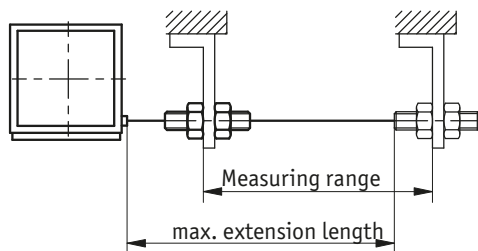

Fig. 3: Extension length check
- ▶ Do not extend the wire beyond the specified maximum extension length (see Fig. 3).
- ▶ Conduct the wire perpendicular to the wire outlet (see Fig. 3).
Mounting the wire-actuated encoder (Fig. 2, Fig. 3):